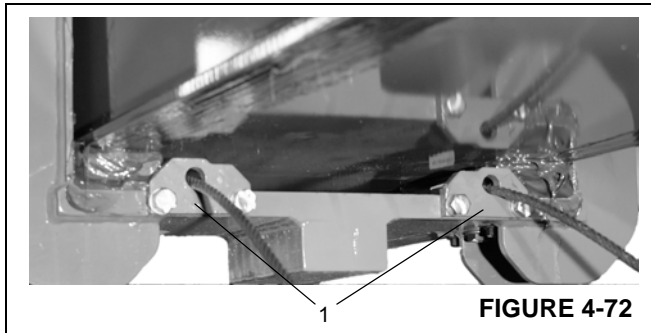

FIGURE 4-72
20. Attach fly retract cable anchors to the nose of the inner mid section (Figure 4-72, 1).